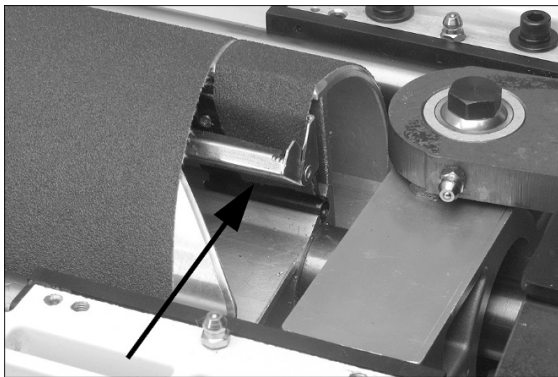

Figure 6-9
5. Press inboard take-up lever (Figure 6-9) and insert trailing end of strip as far as it will go. If necessary, trim tapered end of abrasive strip.